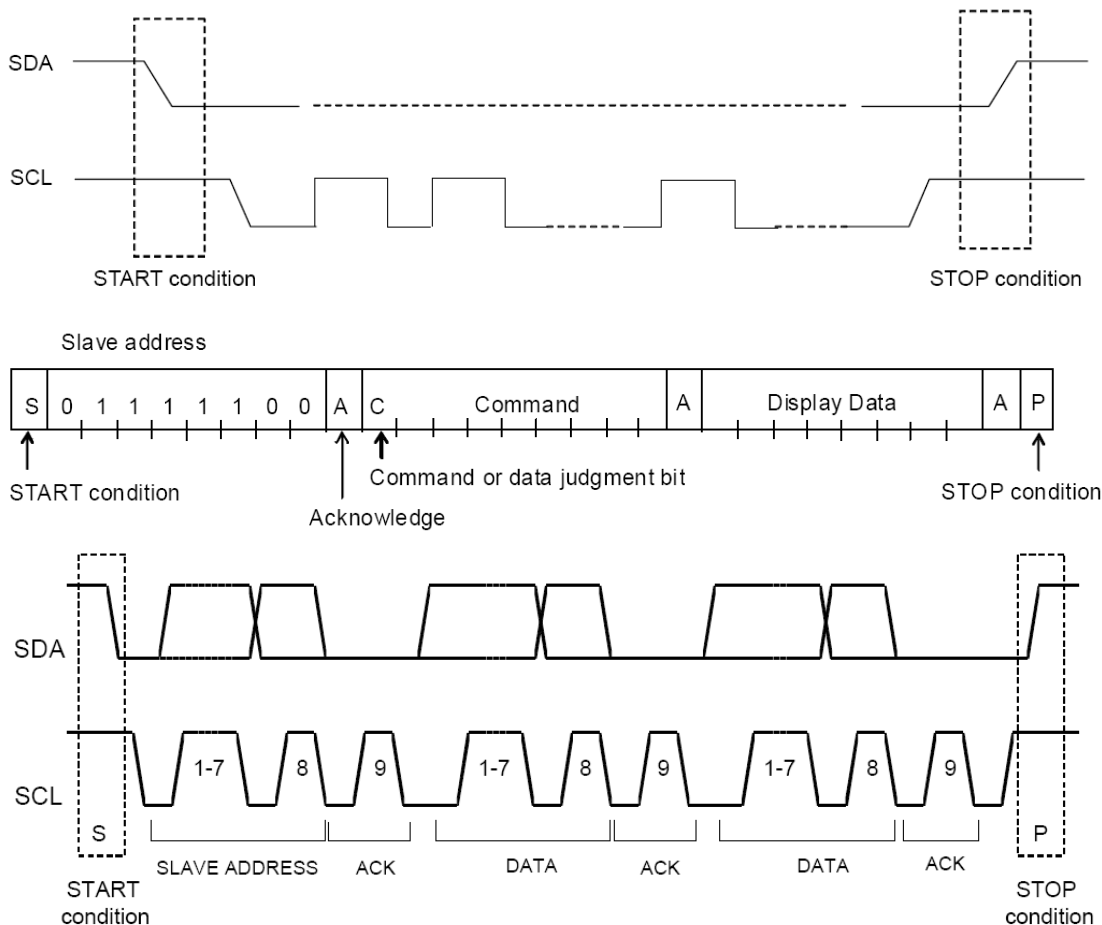

Figure 4
The I2C-bus protocol is shown in Fig.4. The sequence is initiated with a START condition (S) from the I2C-bus master which is followed by BL55080 slave address. After acknowledgement, one or more command bytes (m) follow which define the status of the BL55080. The last command byte is tagged with a cleared most significant bit, the continuation bit C. After the last command byte, a series of display data bytes(n) may follow. These display bytes are stored in the display RAM at the address specified by the data pointer and the subaddress counter. Both data pointer and subaddress counter are automatically updated and the data is directed to the BL55080. The acknowledgement after each byte is made by the BL55080. After the last display byte, the I2C-bus master issues a STOP condition (P).